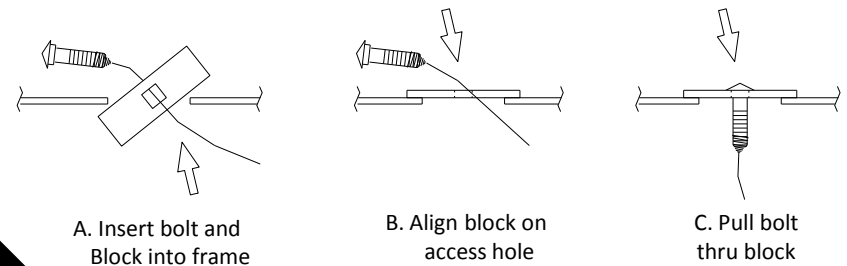

Figure 3
5. Remove nuts from lower bumper studs – Use 18mm socket to remove the nut from the lower bumper stud (1) each side.
6. Loosen sensor bar - Use 10mm socket to loosen (2) nuts holding the sensor bar to the vehicle (not necessary to completely remove, only loosen to ease hitch install).
7. Drill holes - Raise hitch into position and onto lower bumper studs, tighten the nuts to hold hitch in place. Mark the location of the drilled holes on the forward hitch attachments using the hitch as a template. Take hitch back down. Using a 1" holesaw, drill hole for forward hitch attachment (1) each side.
8. Fishwire bolts - Using the reverse fishwire method (Figure 3) install the carriage bolts and blocks into the holes drilled in the previous step, leave pullwires attached.